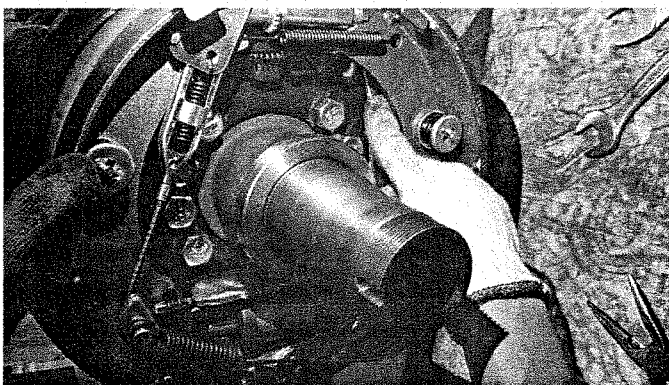
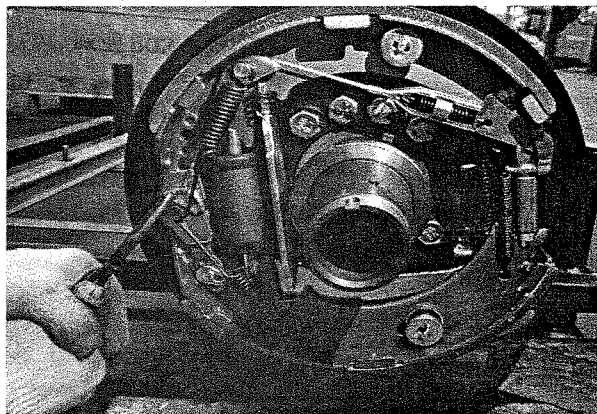

Fig 7-21
Fig 7-22
(9) Measure free length and installation load of ratchet spring (Fig 7-21). Installation Load: 14.7N (3-3.5t)
(4) Add #2 calcium base lubricating grease at a, b, c, d respective lubricating points as indicated in Fig 7-21 and Fig 7-22, and be careful not to allow this grease to be adhered on brake shoe.
(5) Mount the brake cable assembly onto the bottom plate using E-shaped retainer ring.
(6) Mount the brake shoe onto the bottom plate using fixing spring, but the bottom part of secondary brake shoe shall be mounted with fixing spring after the washer, cup and the adjusting lever have been properly installed, to ensure that the pressure seat is fitted in the holes of brake shoe and adjusting lever (Fig 7-21).
(7) Mount the compressed spring onto the hand brake push rod, and then install the push rod onto the brake shoe.
(8) Mount the guide plate of brake shoe onto the support pin, and then install the return spring of brake shoe (Fig 7-22).